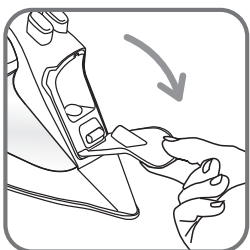
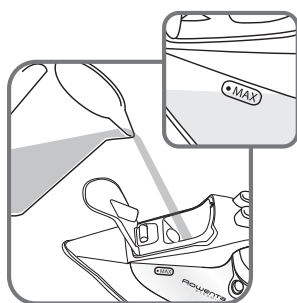

fig.4
fig.5
- Open the filling inlet **fig.4**. Fill in water up to the Max. mark. **fig.5**. Close the filler inlet and return the iron to the horizontal position.